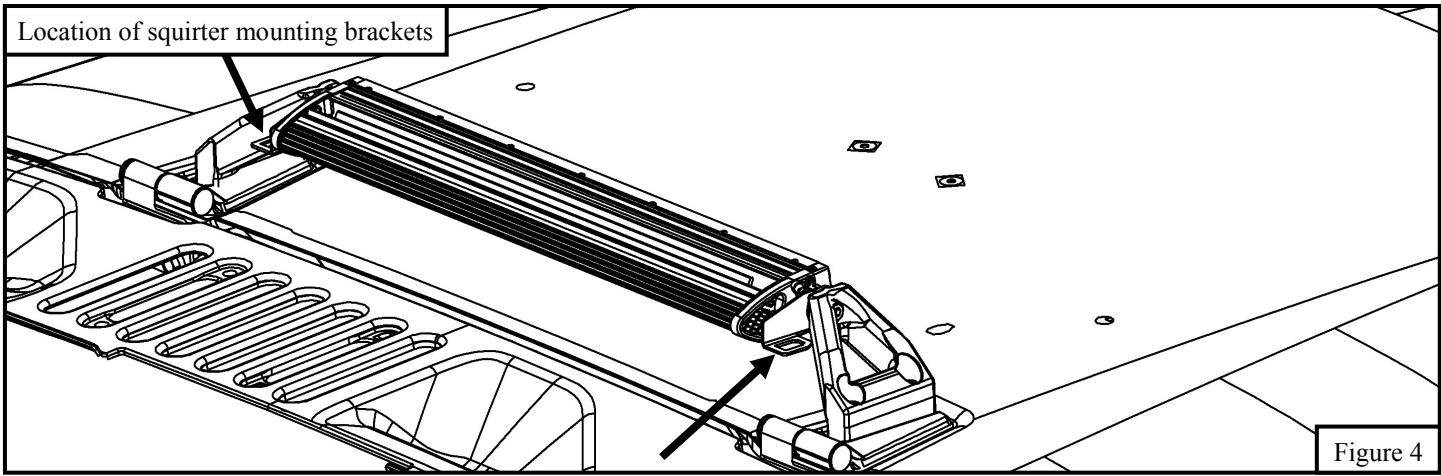
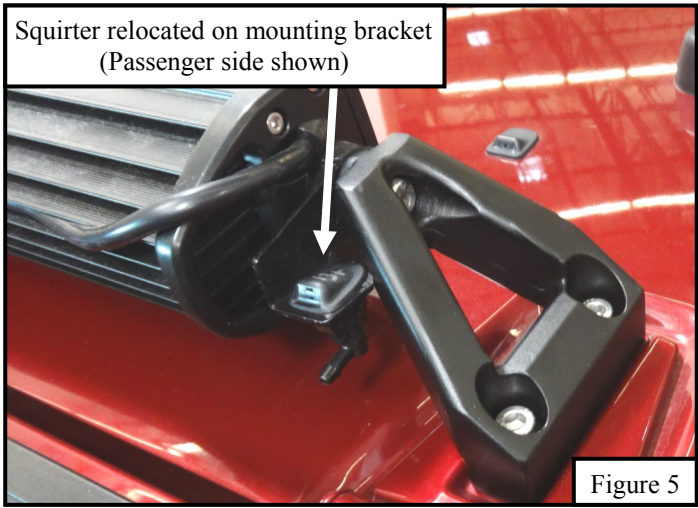
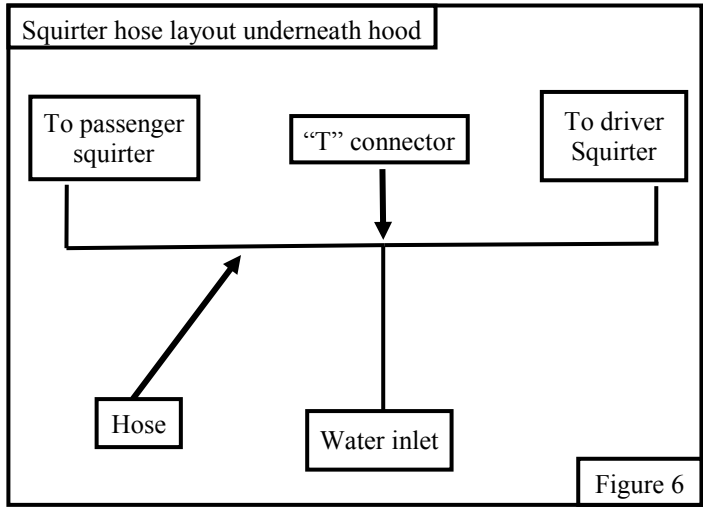

Figure 4
Figure 5
Figure 6
6. **NOTE: (Steps 6 and 7 are optional.)** If windshield washer squirters are not desired to be re-used, skip to Step 9. Locate the squirter relocating brackets (Items 3 & 4) and place them in between the mounting brackets and light bar mounting points as shown in Figure 4.
- A. **2007-12 vehicles.** A separate purchase of (2) Mopar P/N 68164356AB windshield squirters and a windshield washer hose "T" connector is required in order to relocate squirters.
7. Install the factory squirters onto the squirter mounting brackets as shown in Figure 5. Using the provided hose, re-connect the factory squirters to the supplied water inlet hose at the "T" connector. Refer to Figure 6.
9. **NOTE:** Light bar sold separately. To install the light bar, with the help of an assistant, carefully lift the light bar and position it between the two mounting brackets. Align the holes of both ends of the light bar with the holes of mounting brackets. Secure the light bar using (2) short M8 socket head cap screws and (2) M8 split lock washers.